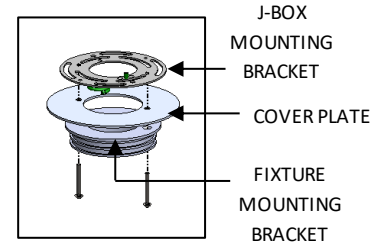

FIG. 9-FIORI MOUNTING PLATE INSTALLATION
3. Mount FIXTURE MOUNTING BRACKET to J-BOX MOUNTING BRACKET with COVER PLATE in between as shown in FIG.9